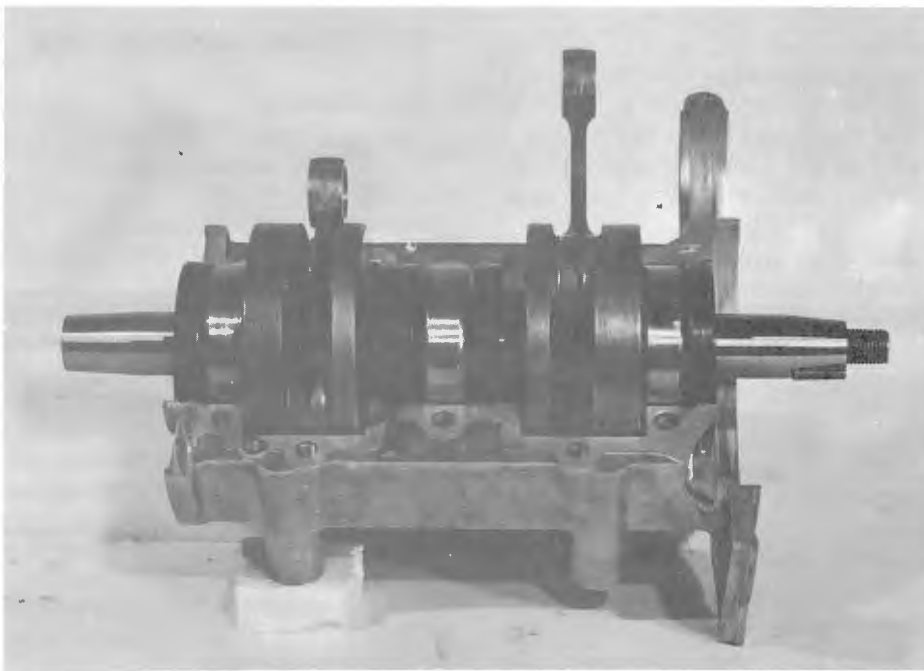

FIGURE 3-10 CRANKSHAFT IN LOWER CRANKCASE
- r. Remove the 11 bolts, plain washers and lockwashers joining the two halves of crankcase. Separate crankcase by pulling the two halves apart. Remove the crankshaft. Remove the four seal retaining circlips from crankcase lower half. (Refer to Section V, figure 5-1). Figure 3-10